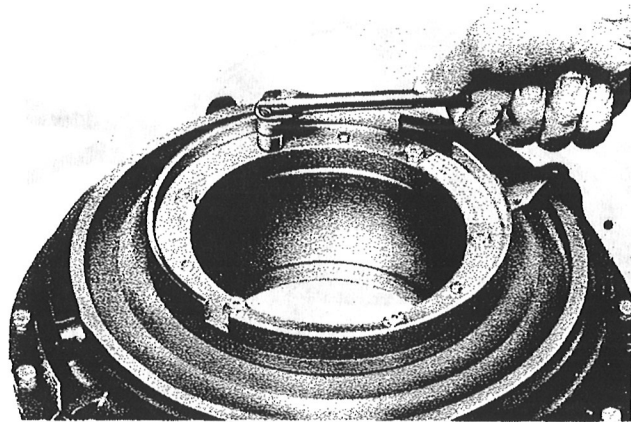

Figure 52—Removing Adapter Plate Bolts
(3) Remove the safety wire and remove the six adapter plate bolts. (See figure 52.)